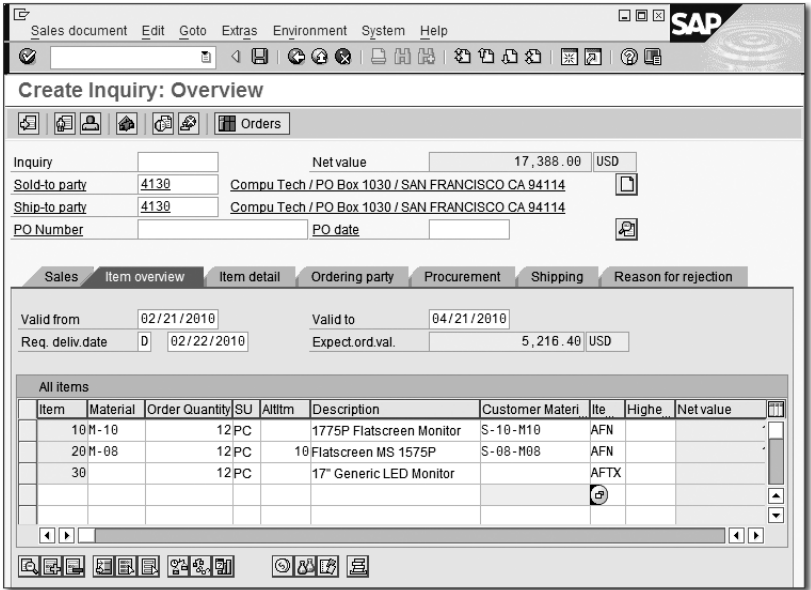

Figure 3.6 Create Inquiry – Overview Entry of Alternative Item
3. Find the alternative item column (ALTITM), and enter the line item number (in our example, it is 10) of the material for which this item is defined as an alternative (the material you entered in the previous step—line item 10).
4. If you offer more than one alternative for an item, repeat the steps and enter the main item number as before (i.e., 10) (see Figure 3.6 for example).